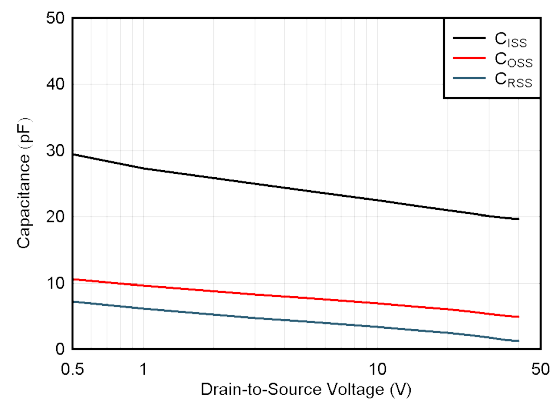

Figure 6-12. Input, Output, and Reverse Transfer Capacitance vs Drain-to-Source Voltage
Most previous-generation JFET devices featured only three pins (gate, source, and drain). For these devices, the gate pin is in the same physical location as the VCL pin on the JFE150. To test the JFE150 in a three-pin socket, short pin 2 of the JFE150 (VCL) to pin 3 (G). When the devices are connected with pin 2 shorted to pin 3, the diode from VCL is shorted out and cannot provide any clamping protection. The input capacitance (C_{ISS}) also increases by 1 pF; see 図 6-12.